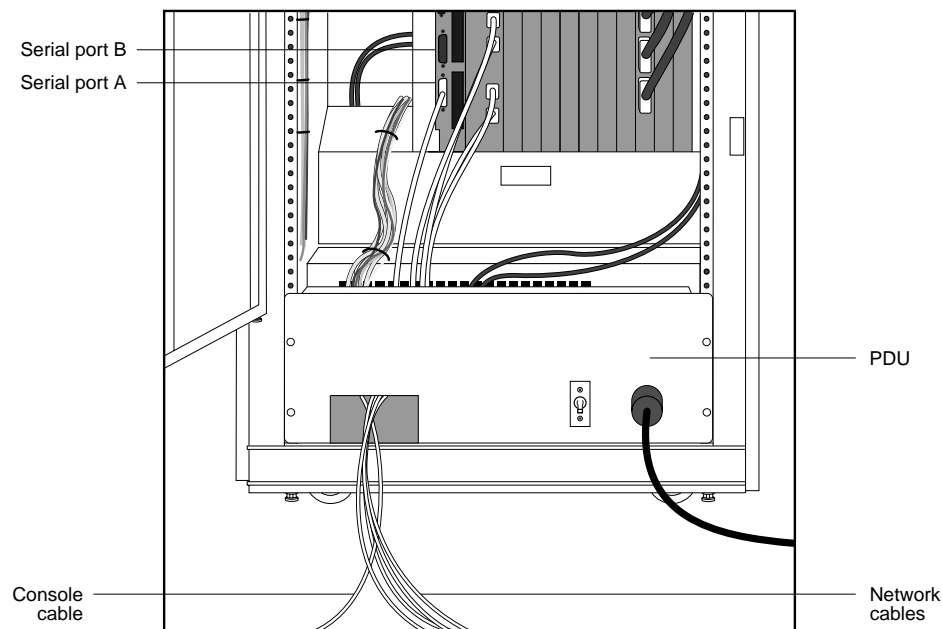

Figure 17. Routing cables to the NetServer
3. For NS 7000/500, NS 7000/650, NS 7000/700, and NS 7000/800 Series NetServers, route each end of the network cable through the opening in the PDU at the back of the cabinet (see Figure 17).